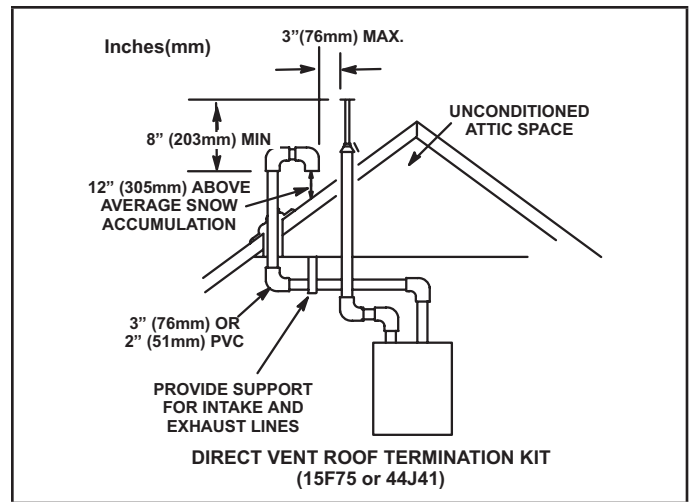
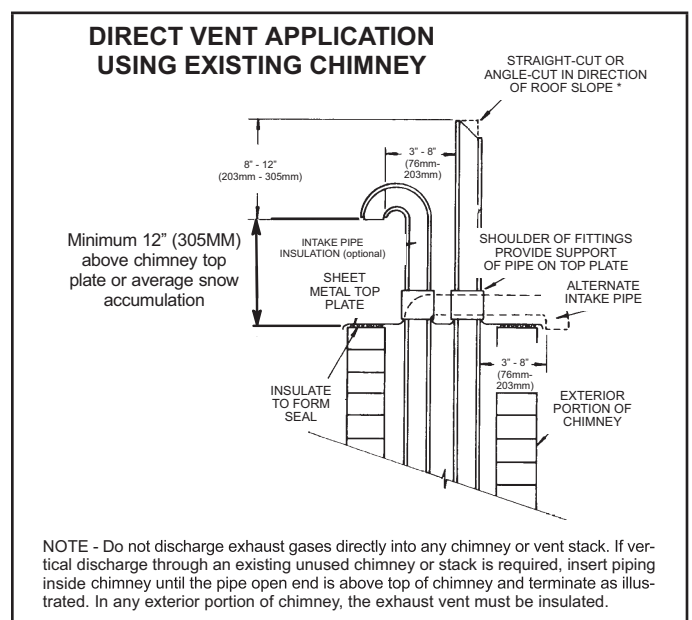

FIGURE 36
FIGURE 43
Intake and exhaust pipes may be routed either horizontally through an outside wall or vertically through the roof. In attic or closet installations, vertical termination through the roof is preferred. FIGURE 36 through FIGURE 43 show typical terminations.
- 3 - On roof terminations, the intake piping should terminate straight down using two 90° elbows (FIGURE 36).